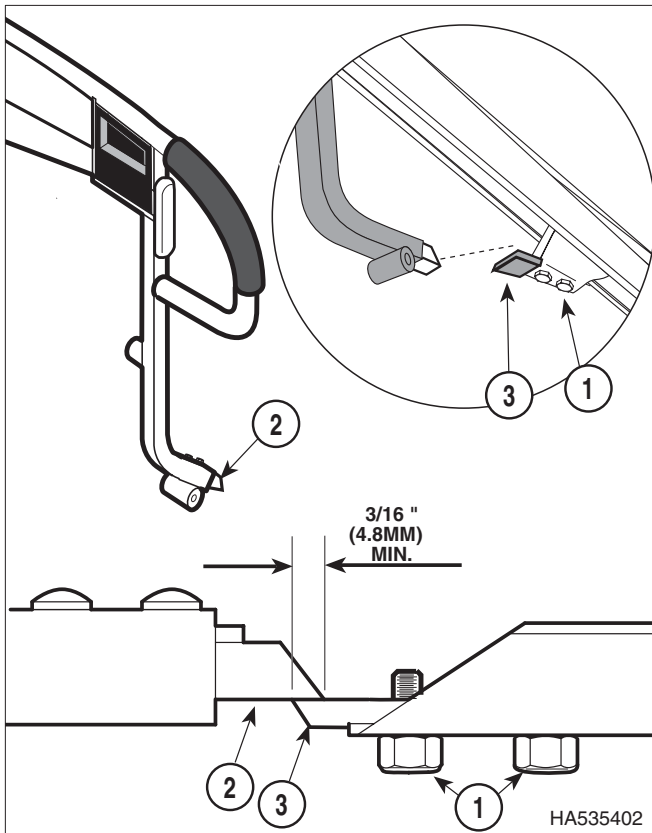

Figure 4-32. 550 and 555 Siderail Latch Adjustment
- (1) Loosen two screws (1, Figure 4-32).
- (2) Slide latch plate (2) in or out until latch bolt (3) has a minimum of 3/16 in. (4.8 mm) engagement with latch plate.
- (3) Tighten two screws (1).